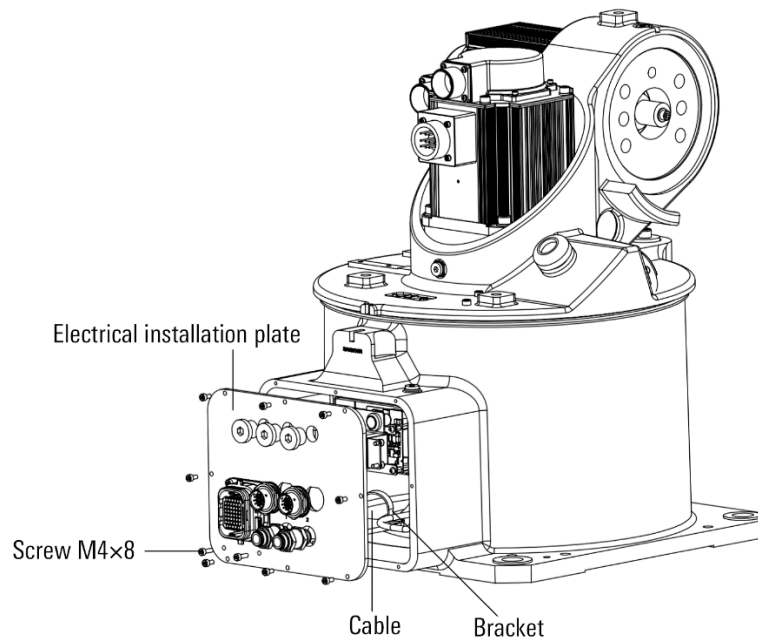

Figure 12-2 Internal cable of the small and heavy load base
- Step1. Remove the electrical installation board, as shown in Figure 12-2, and pull out the internal cable of the base.